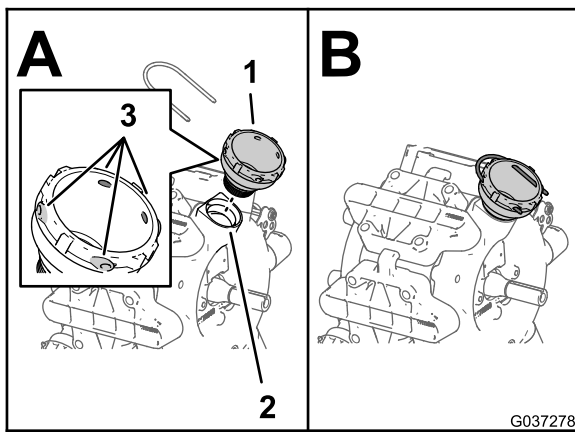
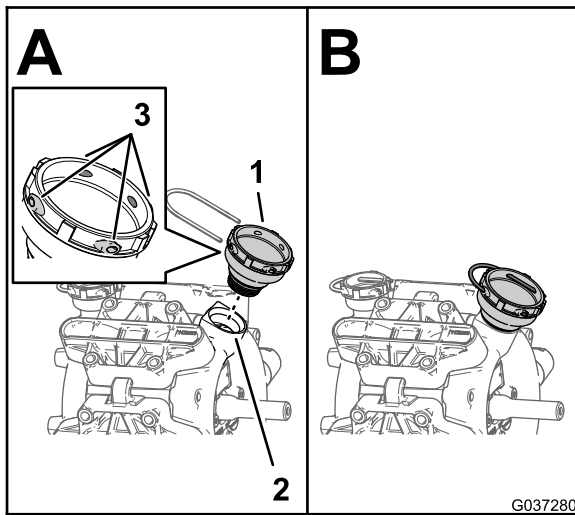

Figure 7
Figure 8
6. Assemble fitting 38.1 mm (1-1/2 inches) into the return port of the pump (Figure 7 or Figure 8).